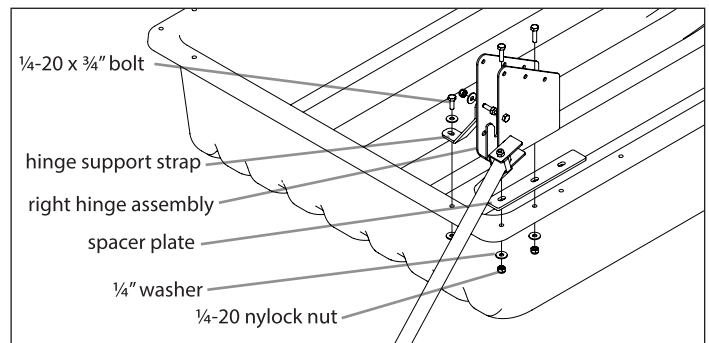

FIGURE 1
1. Attach the left hinge assembly (11652) to the shelter sled using the spacer plate (11631), (2) 1/4-20 x 3/4" bolts, (2) 1/4" washers and (2) 1/4-20 nylock nuts. Repeat this step on the opposite side using the right hinge assembly (11653). **SEE FIGURE 1**
2. Attach the (2) hinge support straps (11203) to both hinge assemblies (11652/11653) using (4) 1/4-20 x 3/4" bolts, (3) 1/4" washers, and (4) 1/4-20 nylock nuts. **SEE FIGURE 1**